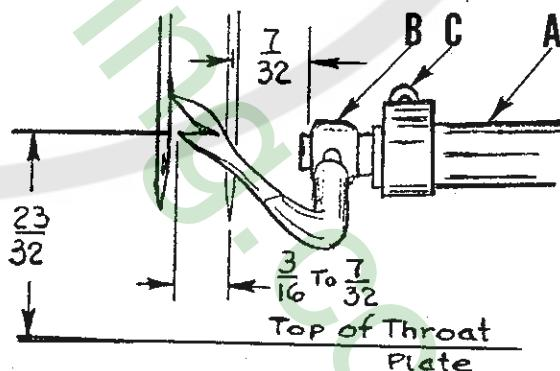

Fig. 6
If spreader gauge is not available to set the spreader, turn the handwheel in the operating direction until the spreader bar (A, Fig. 6) is in the extreme left position. Set the spreader holder (B) in the spreader bar so the left end of the holder is $\frac{7}{32}$ inch to the right of the center of the right hand needle (Fig. 6), and tighten collar screw (C). Looper gauge 21225- $\frac{7}{32}$ can be used for this setting. DO NOT CHANGE THIS LATERAL SETTING OF THE HOLDER.
With the spreader in this position, rotate the spreader about its shank so the point closest to the operator is between $\frac{3}{16}$ and $\frac{7}{32}$ inch to the left of the center of the needle and approximately $\frac{23}{32}$ inch above the throat plate (Fig. 6). Turn the handwheel in the operating direction and check clearance between the bottom point of the spreader and the lower looper. The spreader point should cross the top of the looper to the left as close as possible to the eye and to the back of the looper without touching it.